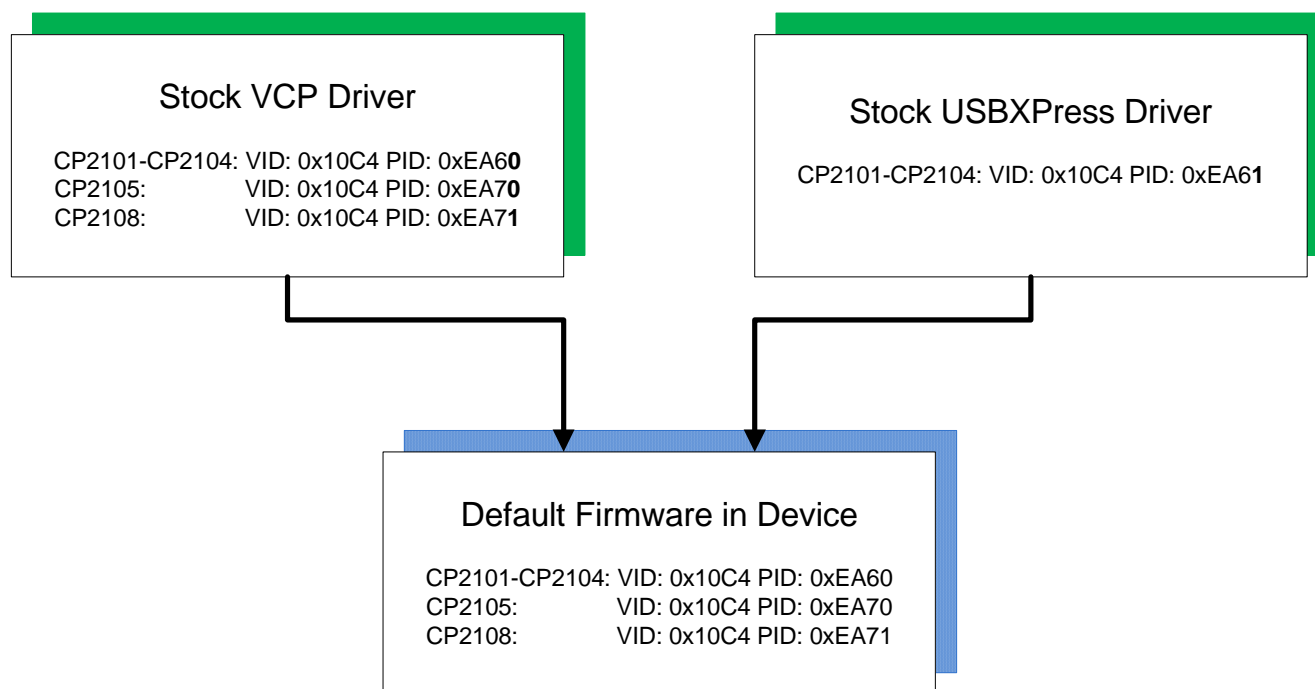

Figure 1. Default VID and PID Values for Driver vs Firmware
Figure 1 shows the default VID and PID values for the device and drivers. To establish communication with the driver, the VID and PID of the device must match the driver. Notice that the default CP210x device VID and PID match the default VCP driver VID and PID numbers.
4. **(USBXpress Users Only):** If the desired driver is USBXpress, it can be download here: www.silabs.com/usbpress. This driver allows direct access using Silicon Labs API commands to control the device. When this driver is initially downloaded it will not have the matching VID/PID of the CP210x devices. See Figure 1 for the default driver and device VID/PID.